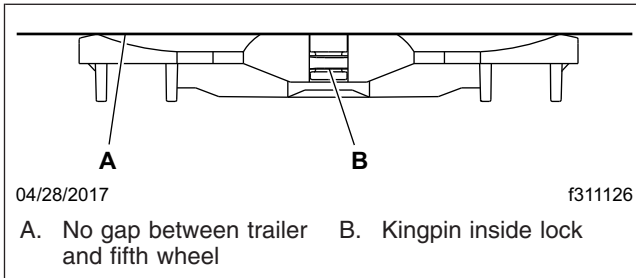

Fig. 20.5, Coupling Inspection
8. Perform a coupling inspection, checking that there is no gap between the bottom of the trailer and the fifth wheel, and that the kingpin is securely locked. See Fig. 20.5
10. Apply the tractor parking brake, then perform a physical check for positive kingpin lockup, and that there is no gap between the trailer and the fifth wheel. See Fig. 20.5.